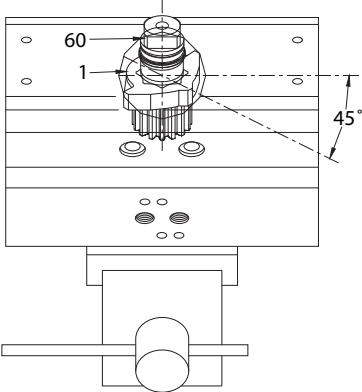

Figure 11
- D. Ensure that the octi-cam (1) is in the correct position as shown by (**Figure 11**).